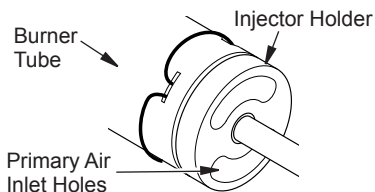

Figure 26 - Injector Holder On Outlet Burner Tube
2. Inspect burner, pilot and primary air inlet holes on injector holder for dust and dirt (see Figure 26).